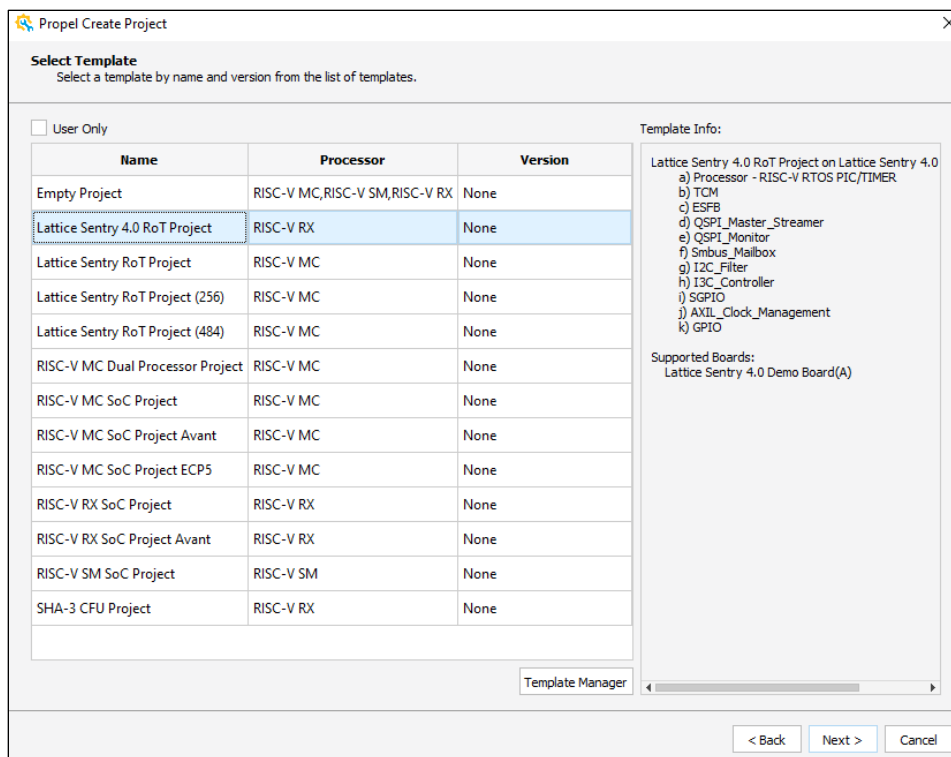

Figure 4.3. Create Lattice Sentry 4.0 RoT Project
5. Select Lattice Sentry 4.0 RoT Project, then click **Next** (Figure 4.3).